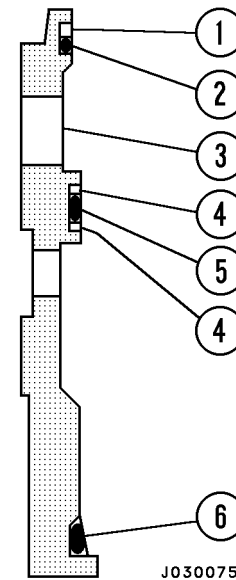

FIGURE 3-7. SLEEVE SEAL PLACEMENT
1. Install an O-ring (2, Figure 3-7) onto the smallest groove (on the top) of the regulator sleeve (3). Install O-ring (5) onto the middle groove on the regulator sleeve. Install O-ring (6) onto the largest groove (on the bottom) on the regulator sleeve.
2. Install a split nylon back-up ring (4) onto each side of the O-ring (5) located in the middle of the regulator sleeve.
3. Install one split nylon back-up ring behind the O-ring (2) located at the top end of the sleeve. This O-ring is the smallest of the three O-rings. Position the back-up ring so that it is next to the top of the regulator sleeve. The top of the sleeve is the end with the smallest O.D.